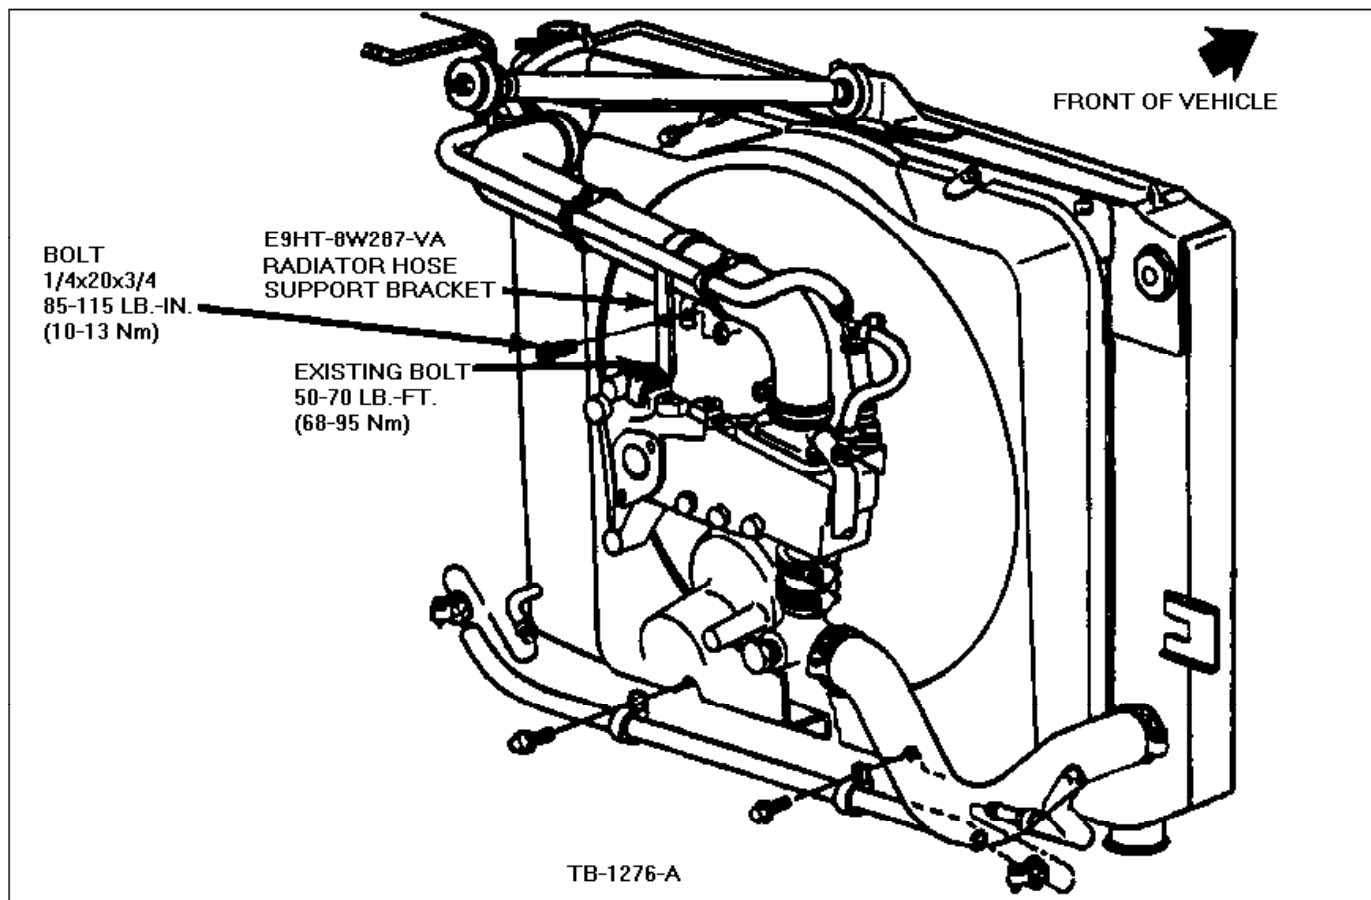

Figure 1 - Article 90-9-10
1. Remove the old upper radiator support bracket, Figure 1. Save the existing bolt for securing the new bracket.
3. Install the new-design upper radiator support bracket, Figure 1.